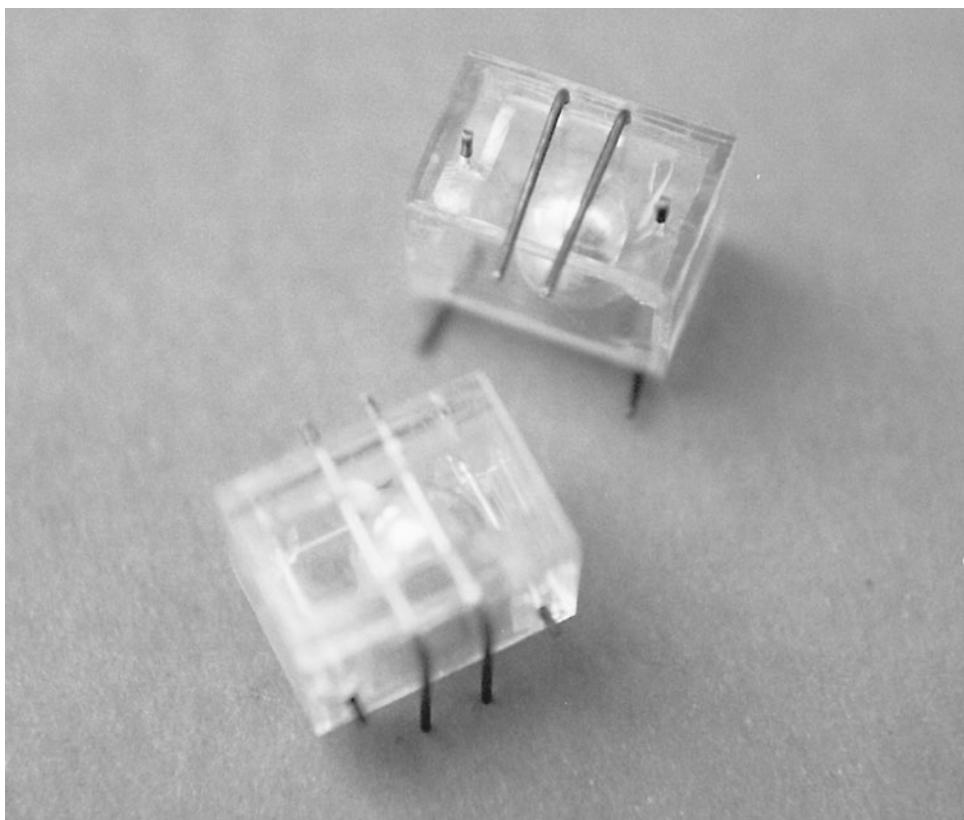

FIGURE 35-1 Typical ball-in-cage switches.
- The ball-in-cage (see Fig. 35-1) is an all-mechanical switch popular in pinball machines and other devices where small changes in level are required. The switch is a square or round capsule with a metal ball inside. Inside the capsule are two or more electrical contacts. As the capsule is tilted, the ball rolls between the contacts, closing or opening them.